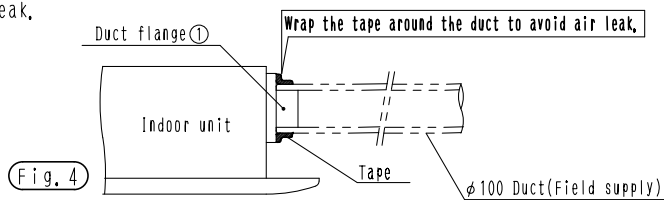

Fig. 4
1. Connect the duct to the duct flange, (Flange fits inside the duct,)(Fig.4)